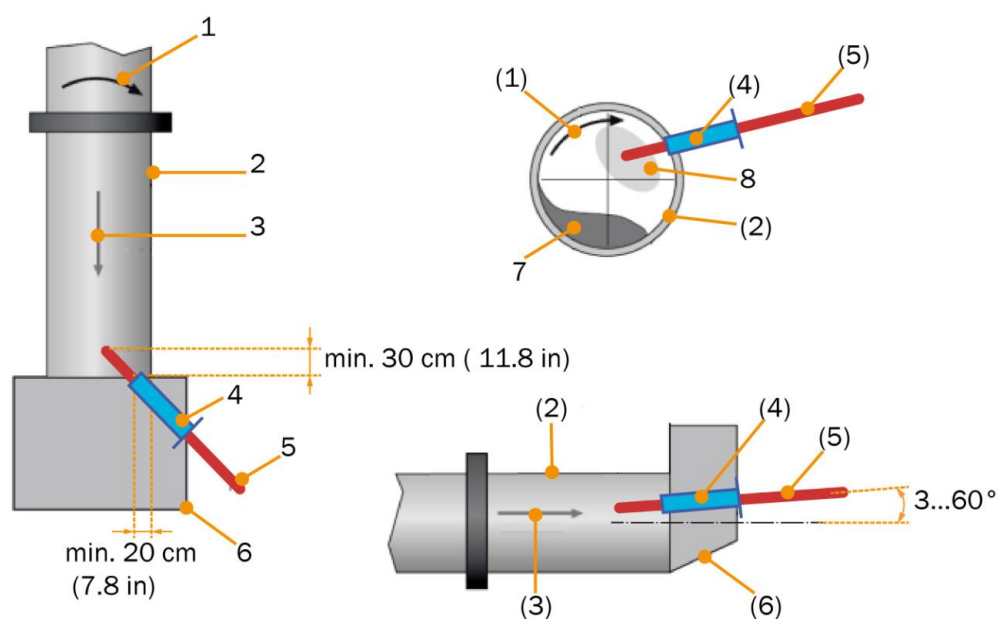
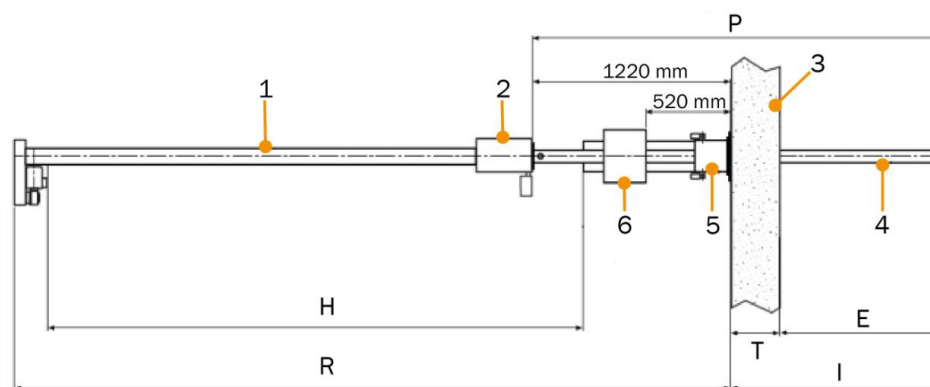

Fig. 17: Probe position in the rotary kiln
Fig. 18: SCP3000 dimensions
- ▶ The relationship between probe length, movement distance of the retraction device, and insertion depth can be derived from Fig. 17: "Probe position in the rotary kiln", page 31, Fig. 18: "SCP3000 dimensions", page 32.